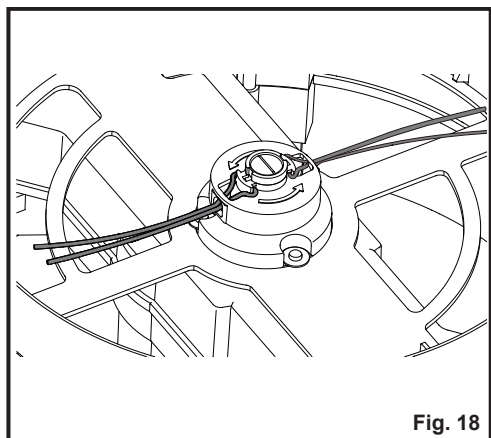

Fig. 18
- Refer to the above steps to replace the other cutting line (Fig. 18).